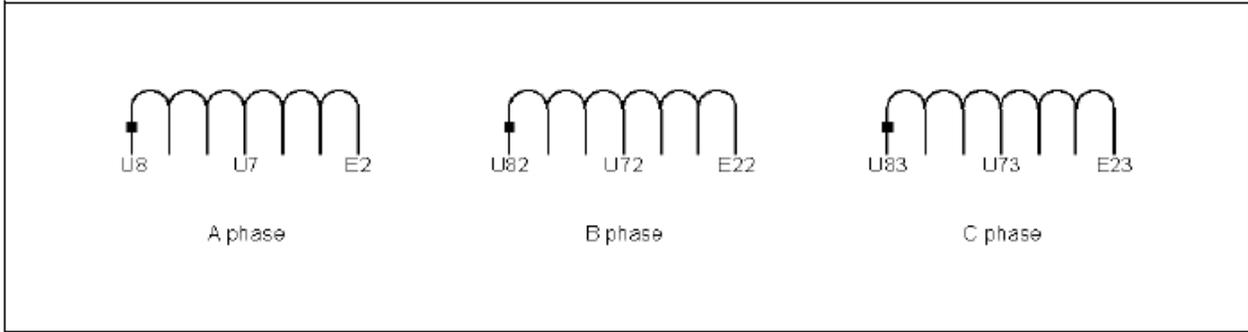

Figure D.6 U2 Connects to a “U” Terminal (U7 or U8) which is to the Left of E2
- If U2 is connected to a “U” terminal which is to the left of E2, then UtilityPol:NORM (see Figure D.6).